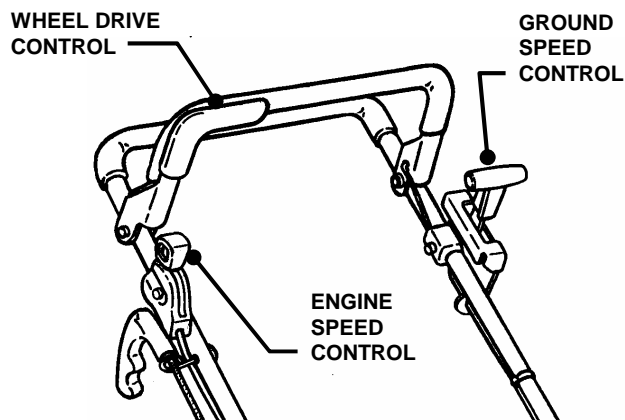

FIGURE 2.5
1. Move ground speed control to the desired speed position. See Figure 2.5.
**IMPORTANT:** Forward motion of machine must be stopped before changing position of the ground speed control. See Figure 2.5.